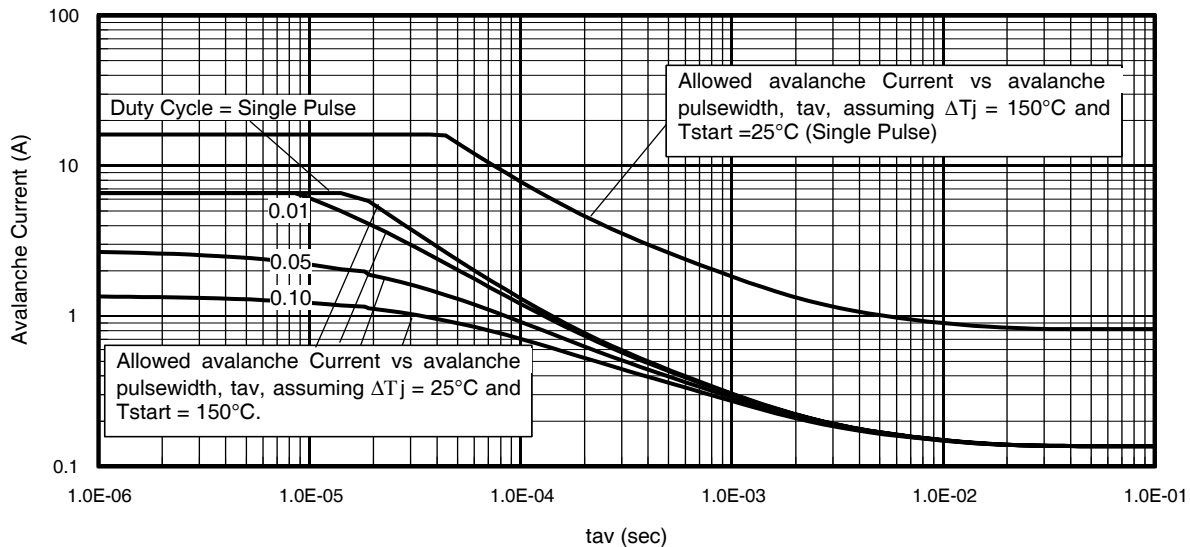

Fig 14. Typical Avalanche Current Vs. Pulsewidth
- ① Repetitive rating; pulse width limited by max. junction temperature. ④ R_{θ} is measured at T_J of approximately 90°C .
② Starting $T_J = 25^\circ\text{C}$, $L = 1.46\text{mH}$, $R_G = 25\Omega$, $I_{AS} = 10A$. ⑤ Limited by T_{jmax} . See Figs. 14, 15, 17a, 17b for repetitive avalanche information
③ Pulse width $\leq 400\mu s$; duty cycle $\leq 2\%$.
Notes on Repetitive Avalanche Curves , Figures 14, 15:
7. ΔT = Allowable rise in junction temperature, not to exceed T_{jmax} (assumed as 25°C in Figure 14, 15).